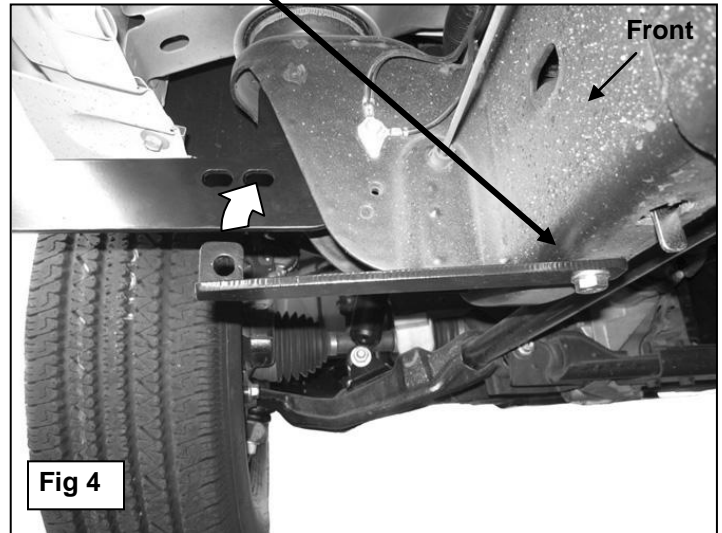

Fig 4
Note that the Front Support Bracket will not reach up to the Mounting Bracket, (Figure 4). Tighten the Support Bracket to the Nut Plate in the frame. Carefully push up on the Support Bracket until it reaches the inside hole in the Mounting Bracket, (Figure 5). Bolt the Support Bracket to the hole in the Mounting Bracket with (1) 10mm x 30mm Hex Bolt, (2) 10mm Flat Washers, (1) 10mm Lock Washer and (1) 10mm Hex Nut, (Figure 6). Do not tighten at this time.